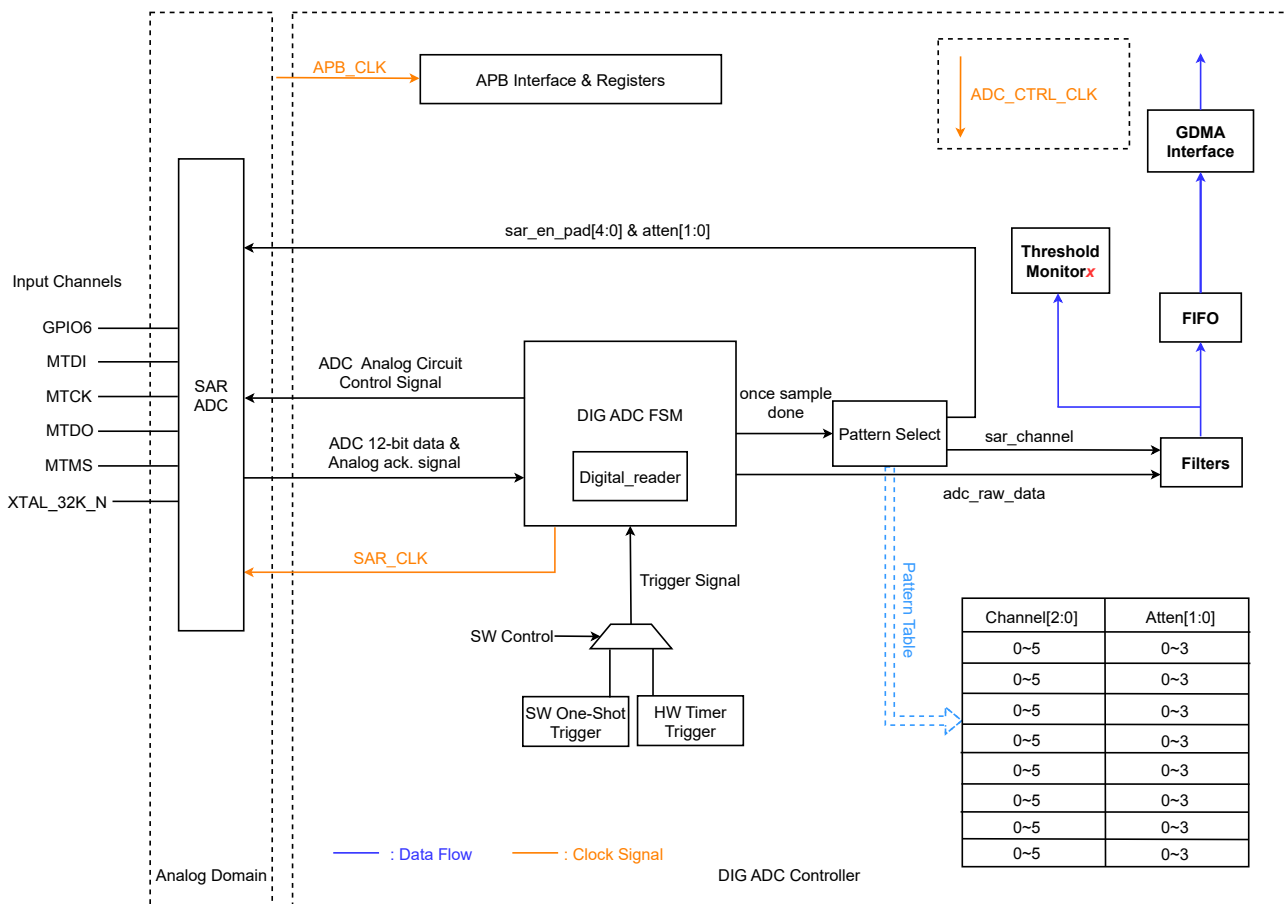

Figure 46.4-1. SAR ADC Architecture
The major components of SAR ADC and their interconnections are shown in Figure 46.4-1.
As Figure 46.4-1 shows, the SAR ADC module contains the following major functional blocks:
- Transfers the conversion result to the filter. Then the threshold monitor transfers the filtered result to memory via GDMA (see Figure 46.4-1).